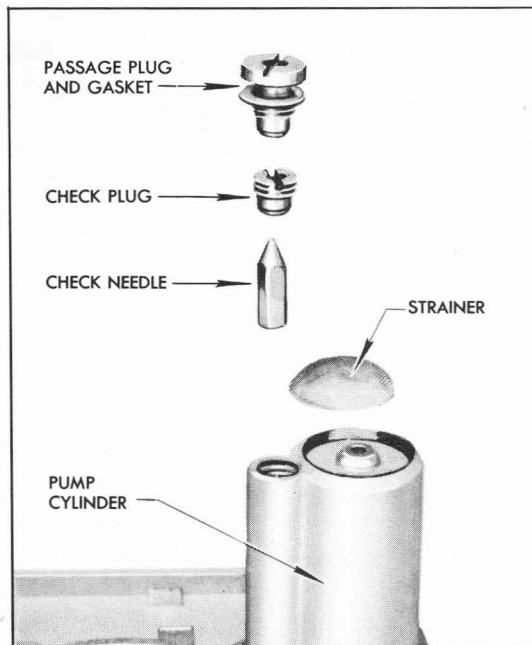

Figure 3-47—Pump Discharge Check Parts
5. Remove choker valve, then remove choker shaft and lever assembly with piston attached. See figure 3-47. Remove piston pin and piston from link.
13. Remove pump discharge passage plug, discharge check plug, and pump check needle from lower end of pump cylinder. Remove pump strainer from lower end of pump cylinder. See figure 3-47.